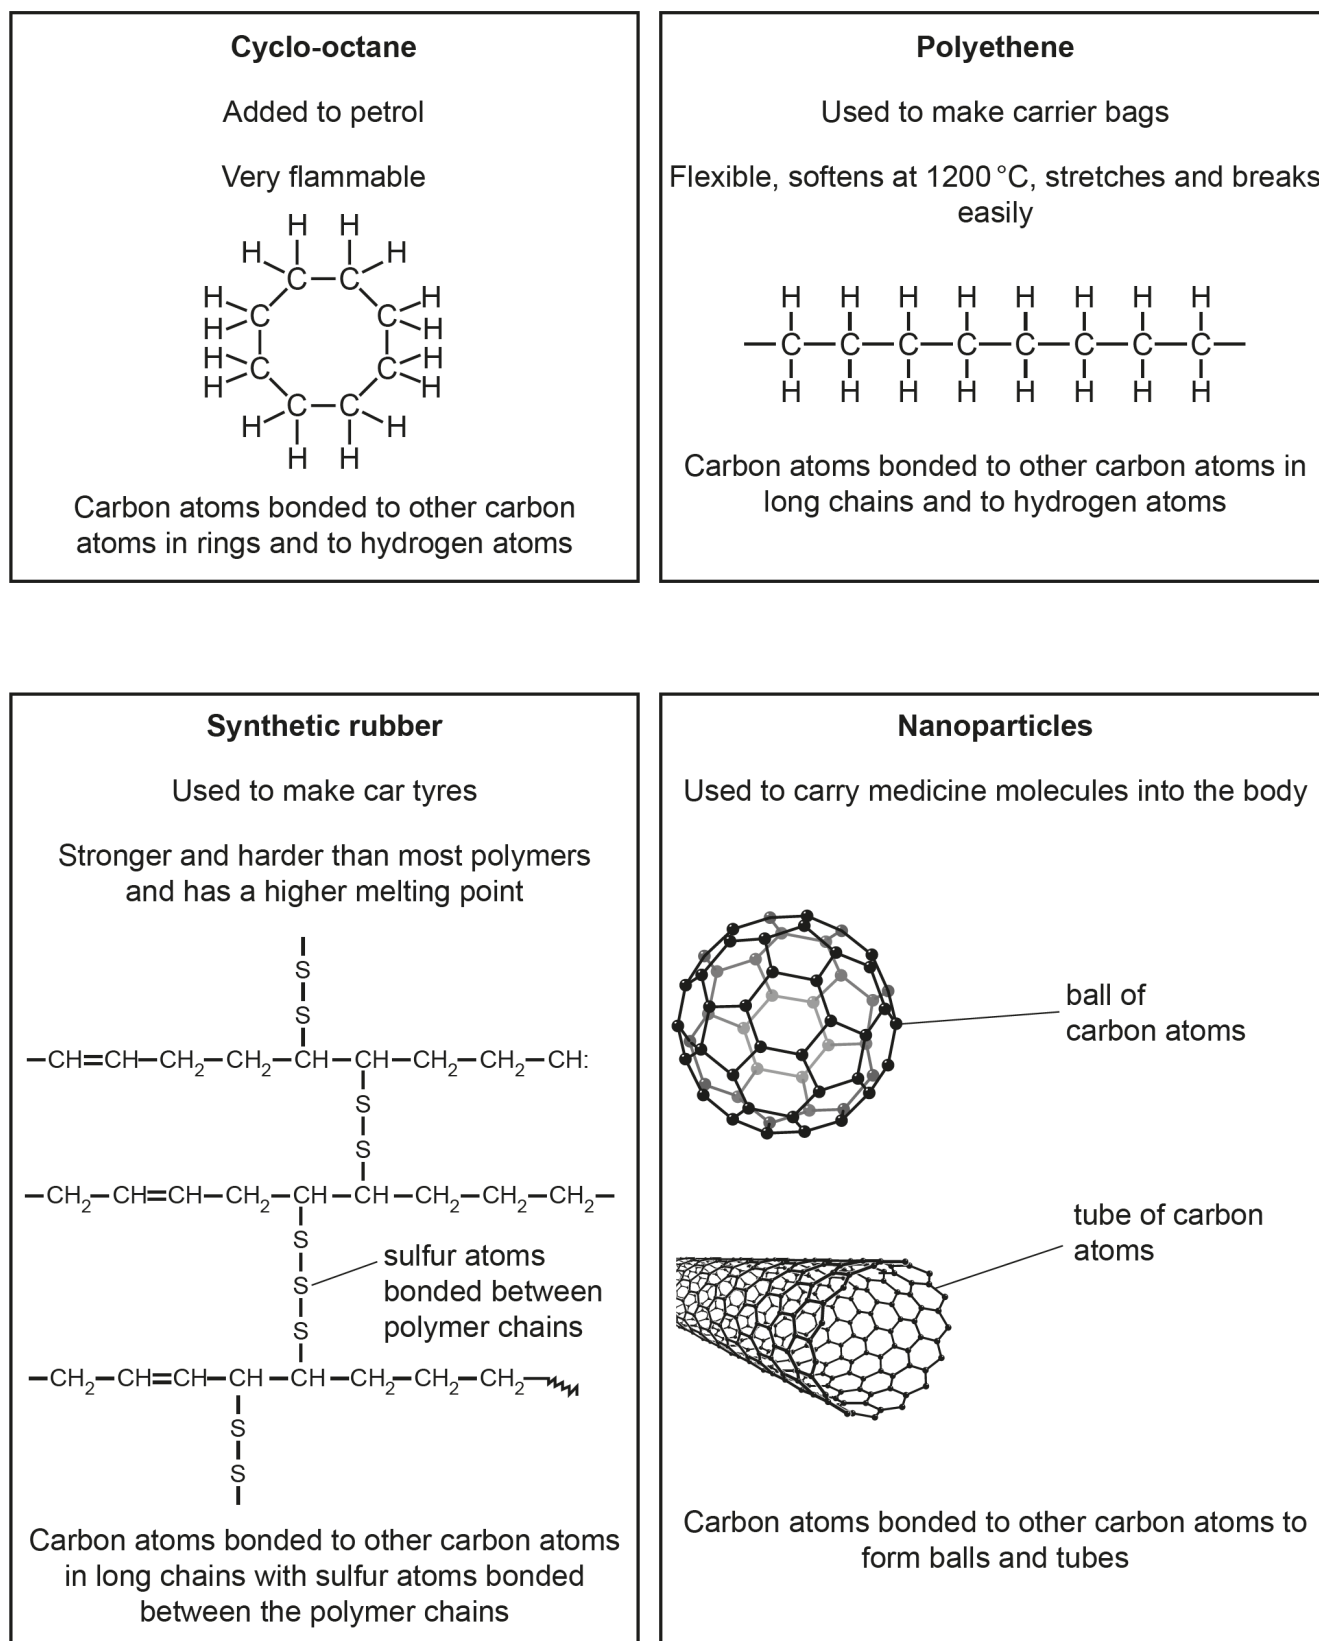

Fig. 8.1
- 8 Fig. 8.1 shows the uses, properties and structure of some substances which contain carbon atoms.
Use **Fig. 8.1** to help you to answer.
Carbon's ability to form four covalent bonds is a key to this, but many candidates also referred to the different types of structure given in Fig 8.1.
Use ideas about structure from **Fig. 8.1** to help you to answer.
- (d) (i) How are nanoparticles different to the other substances in **Fig. 8.1**?
Fig 8.1 shows nanoparticles as being distinctively shaped – but also being the only structure of pure carbon shown. Many candidates also remembered that the particles are very small.